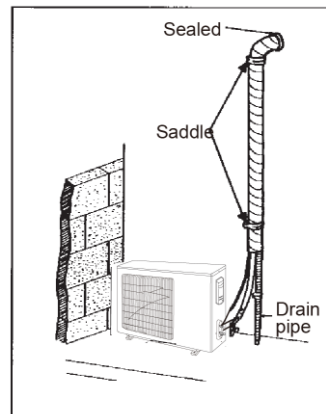

Fig. 4.15
- (1). If the outdoor unit is installed lower than the indoor unit (See Fig. 4.15)